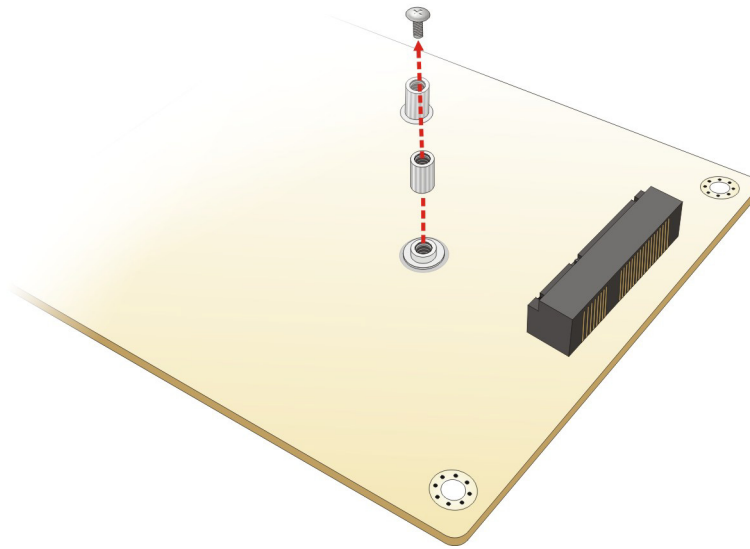

Figure 4-3: Removing the Retention Screw and Standoff
Step 3: Remove the retention screw and standoff. Unscrew and remove the retention screw and standoff for half-size PCIe Mini card secured on the motherboard as shown in **Figure 4-3**.
- CN Location: See **Figure 4-3**
The location of the clear CMOS button is shown in **Figure 4-3**